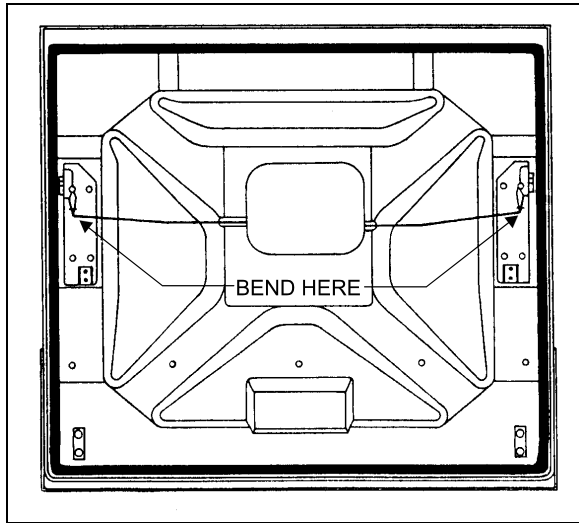

FIGURE 56: BAGGAGE COMPARTMENT DOOR 18067
4. With door slightly open, pull door handle while an assistant checks that both latches release simultaneously. If not, with latch engaged, gently bend the appropriate latch control rod until proper timing is achieved (Fig. 56).